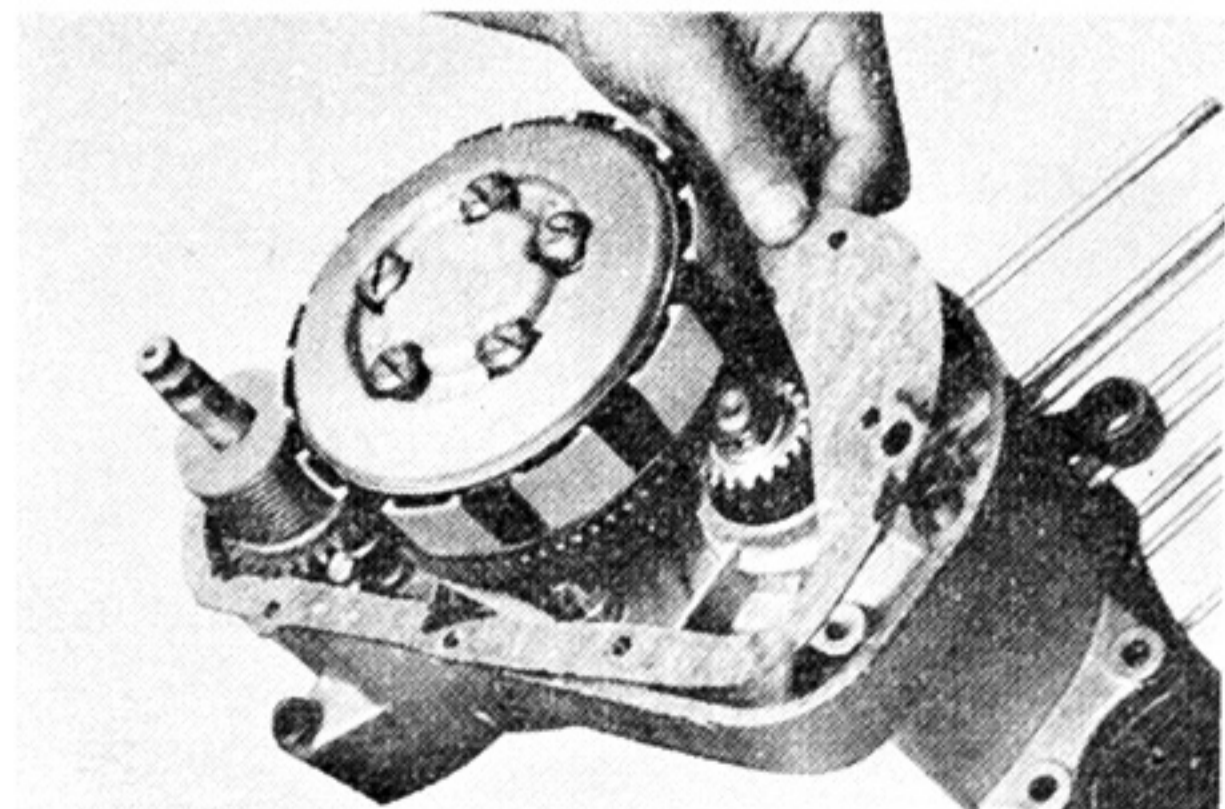

Fig. 3-7-4
- c. Replace the crankcase cover gasket, if damaged. (Fig. 3-7-4)